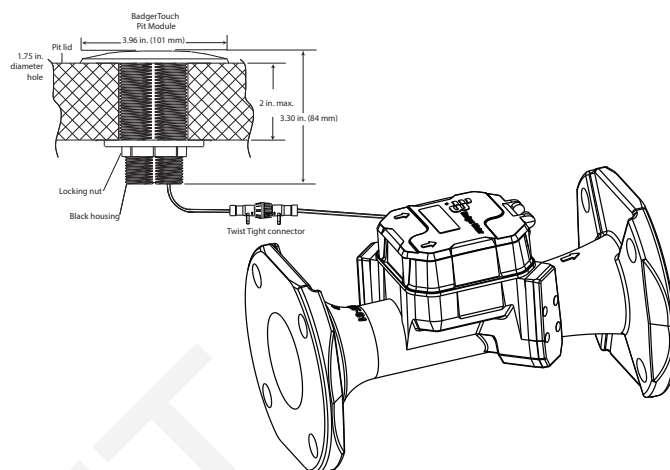

Figure 1: BadgerTouch Pit Module with Twist Tight connector and E-Series Ultrasonic meter
3. Screw the locking nut (large diameter side up) onto the threaded tube of the holder until the locking nut fits snugly against the underside of the pit lid. See Figure 1.